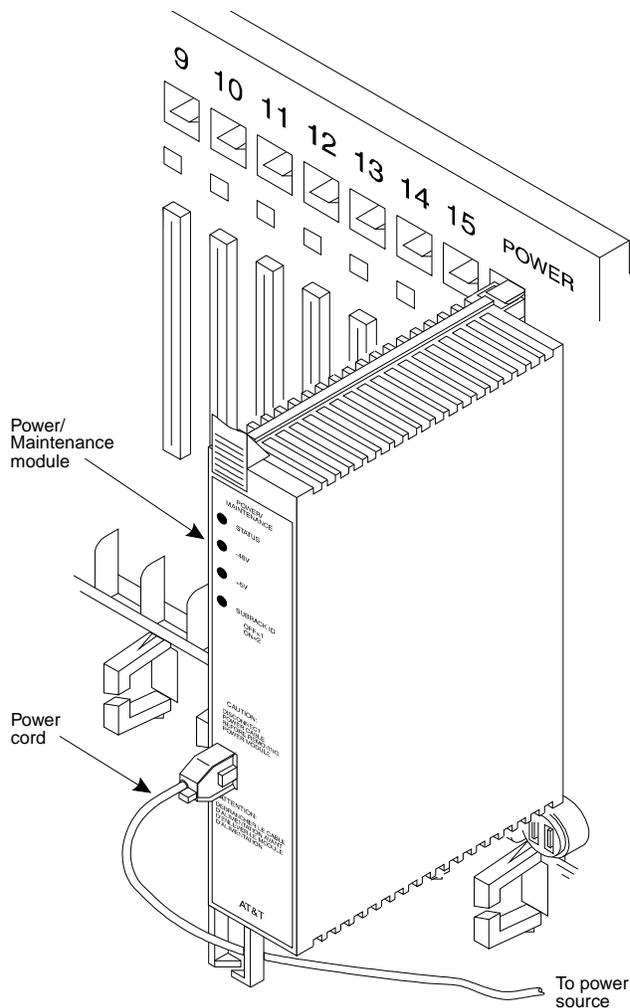

Figure 3-13. Applying Power to the Communicore
2. Connect the power cord first to the power/maintenance module in slot 16 of the upper subrack as shown in Figure 3-13.